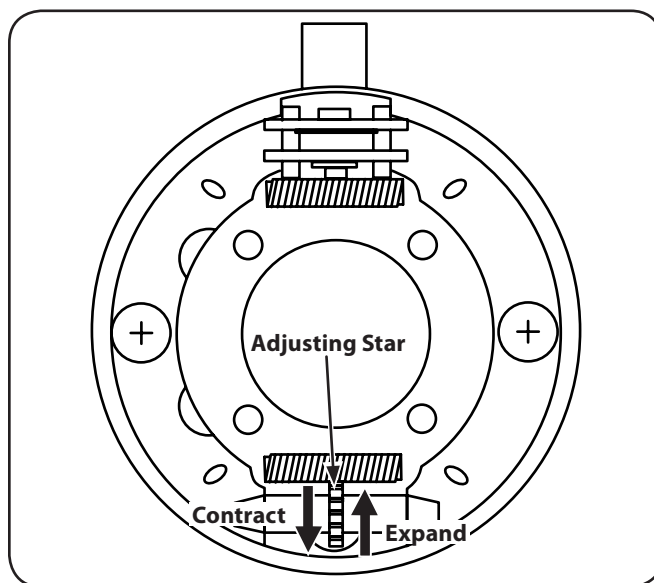

Figure 6-9
2. Using a drum brake adjusting tool, or a standard screw driver, rotate the adjusting star inward toward the axle to to expand the shoes. Expand the shoes until there is slight contact with the brake drums. See Figure 6-9.
4. To contract the brake shoes, rotate the star adjustment outward away from the axle until there is a slight rub between the shoes and the drum. See Figure 6-9.